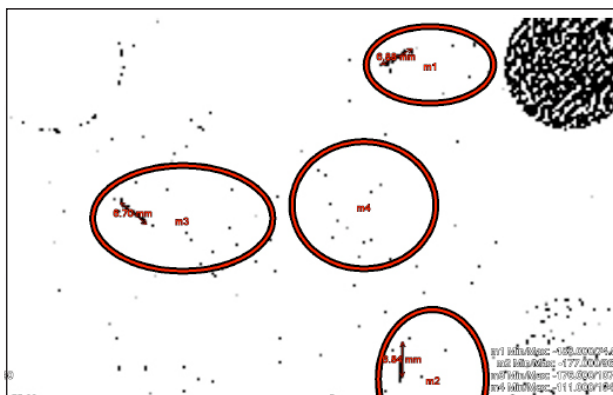

FIGURE 5.
- For each individual ramp projection calculate the CT50 and adjust the window to a low value ($W = 4$ for example) and the level to the calculated CT50 (Figure 5). The length of the slice thickness ramp projections that needs to be measured stands out in the image.